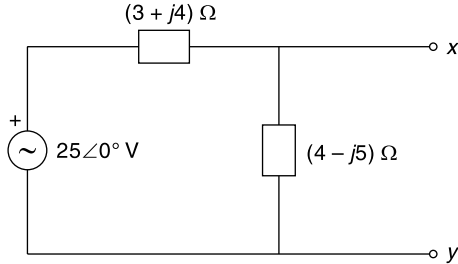

Fig. 14.68
14.80 Obtain Norton's equivalent network (Fig. 14.68) between $(x - y)$ terminals.